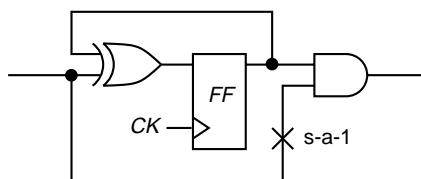

Figure 14.15: A toggle circuit.
- 14.1 *Importance of initialization.* The circuit in Figure 14.15 produces a toggling output when the input is 1. Input 0 holds the output at 0. Assuming the state of the flip-flop (FF) to be unknown, derive a test for the s-a-1 fault shown. Explain why this fault is only potentially detectable. What design change is needed to make the test deterministic?